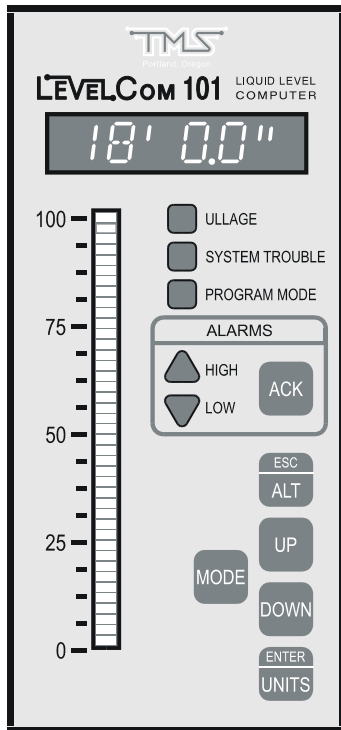

Figure 3 Full Tank Display
**Example:** assume the LevelCom 101 has been programmed to a tank with a Maximum Depth of 18 feet and a Maximum Volume of 730 bbl. Depth is being indicated on the digital display. Vent and sounding pipes run from the top of the tank to the main deck 12 feet above the top of the tank. The tank is set up to allow cascade filling of adjacent tanks through an overflow line located 5 feet above the top of the tank. Figure 3 shows the digital and bargraph displays at 100% of capacity.
There are four (4) external contact inputs. The Alarm Acknowledge and Horn Silence functions can be switched externally. The dry contacts are wired to the terminals ACK / GND and HS / GND as shown in figure 3. The other two (2) contact inputs are reserved for future use.